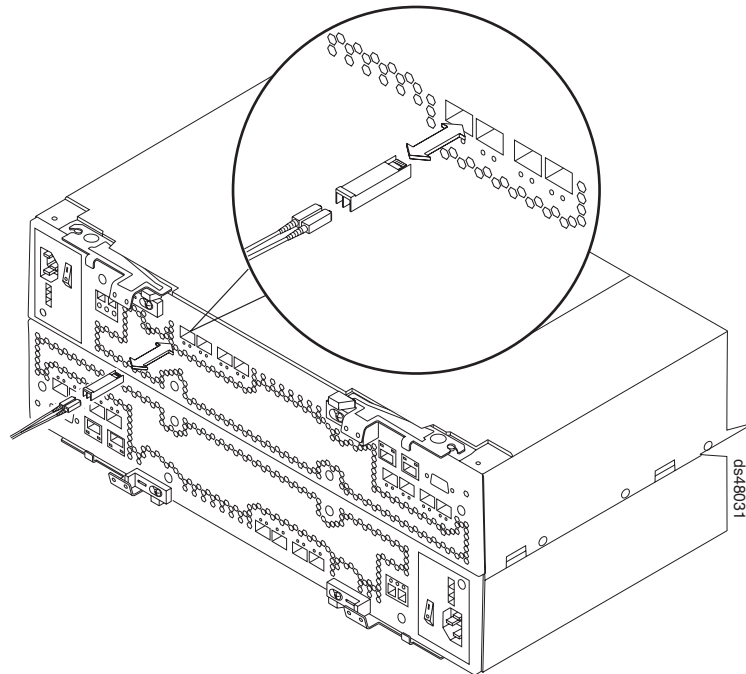

Figure 32. Installing an SFP module and LC-LC cable in a supported DS4000 storage subsystem
2. Connect an LC-LC fiber-optic cable into the SFP module, as shown in Figure 32 on page 49.
Note: Figure 32 on page 49 shows a DS4800 Storage Subsystem. The DS4800 Storage Subsystem is shown for illustrative purposes only.